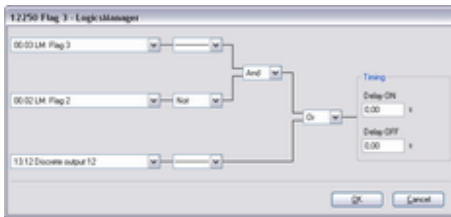

Fig. 214: LogicsManager function "Flag 3"
4. ➤ Configure the LogicsManager function "Flag 3" as shown in (Fig. 214).